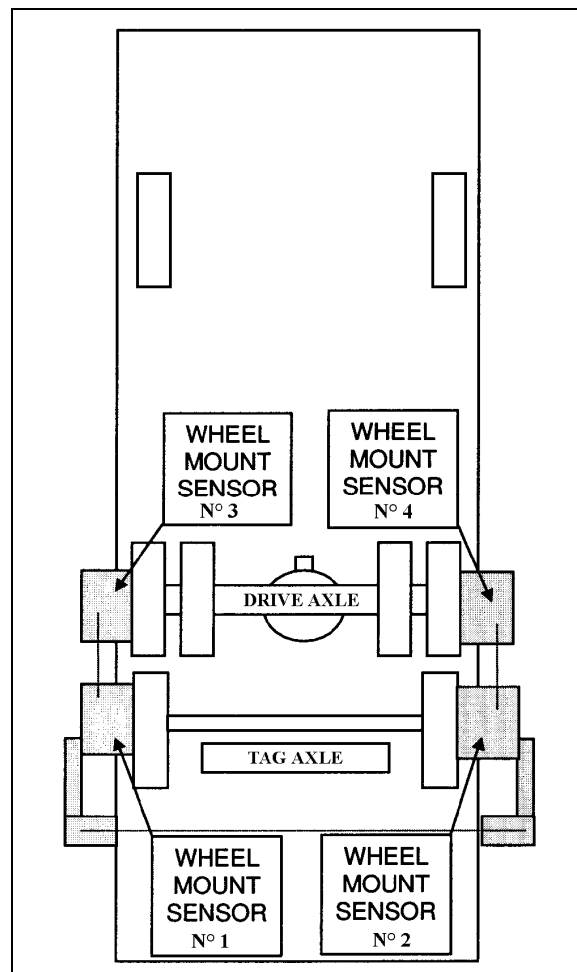

FIGURE 7: TAG AXLE ALIGNMENT
See reference numbers on wheel mount sensors (fig.7).
- With the system installed as in figure 7, adjust drive axle according to specifications' chart below.
- Remove and reinstall all wheel mount sensors on the drive and tag axles (fig. 7);
Reinstall wheel mount sensors as shown in figure 7.